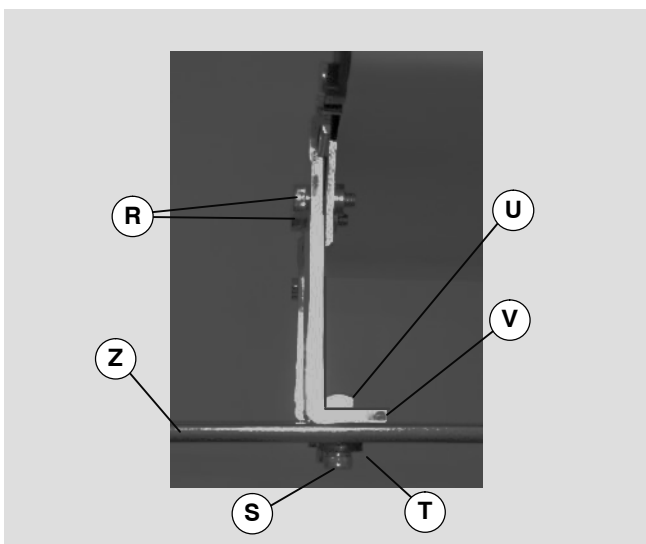

Figure 11
- Attach stand mounting bracket (V of Figure 11) to stand (Z) with two screws (S), hard washers (T) and square nuts (U). Tighten screws (S) to 80 in-lb (9 Nm).